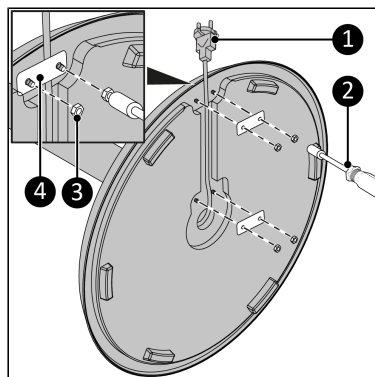

Figure 23.
10. Loosen the four pre-assembled M4 nuts (Figure 23, pos. 3) with a wrench (size 7) (Figure 23, pos. 2).
11. Remove both plastic fittings (Figure 23, pos. 4).
12. Place the power cord (Figure 23, pos. 1) in the recess.